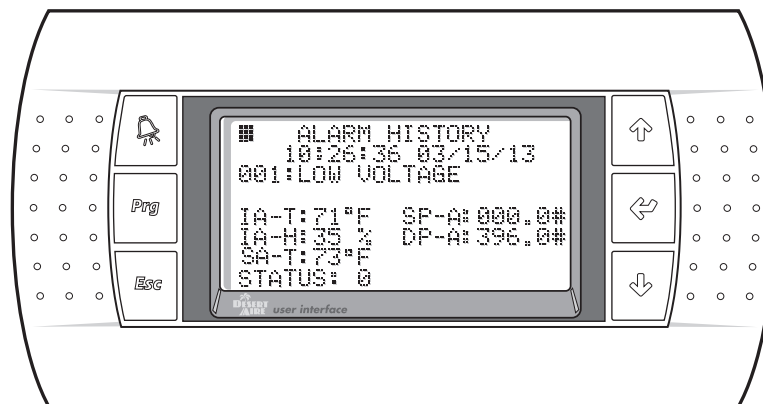

Figure 72
3.2. Alarm History Screen (Figure 72)